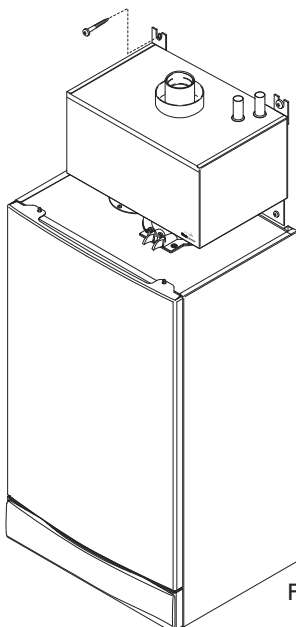

Fig. 7
7. Whilst supporting the 'GasSaver' secure it to the wall with the screws and washers provided using the upper fixing brackets (Fig. 7).